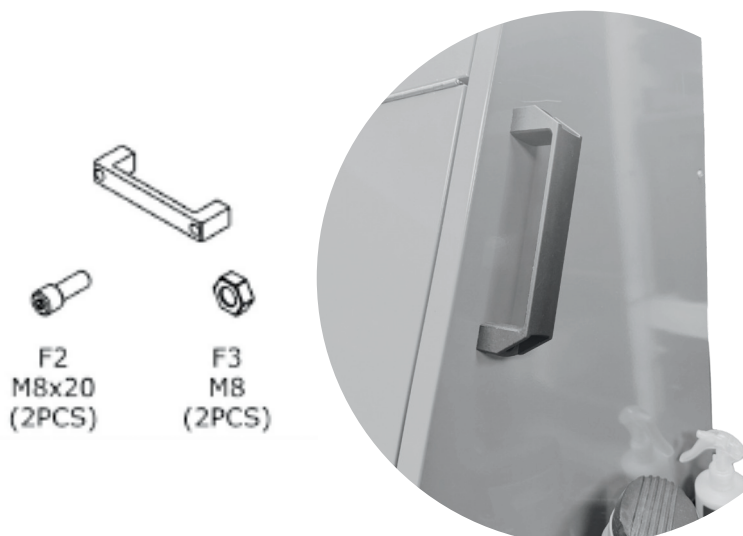

Figure 5.
17) The tool holders will be installed in the holes on the left side of the locking top (see Figure 5.) with the strap lever to the right (towards the front of the cart).